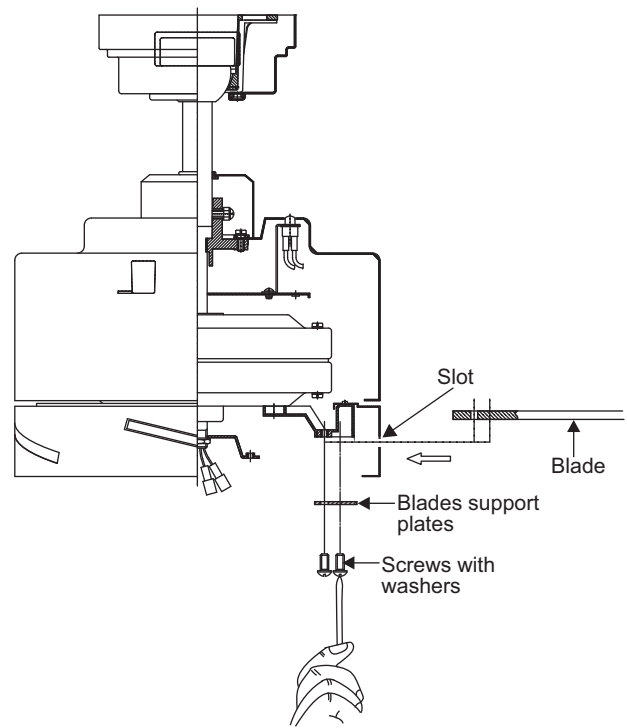

Figure 14
Step 1. Insert the blade through the slot in the housing. Align the holes in the blade, the blade support plate, and the fan motor assembly and secure with a blade attachment screw with lock washer. (Fig. 14)